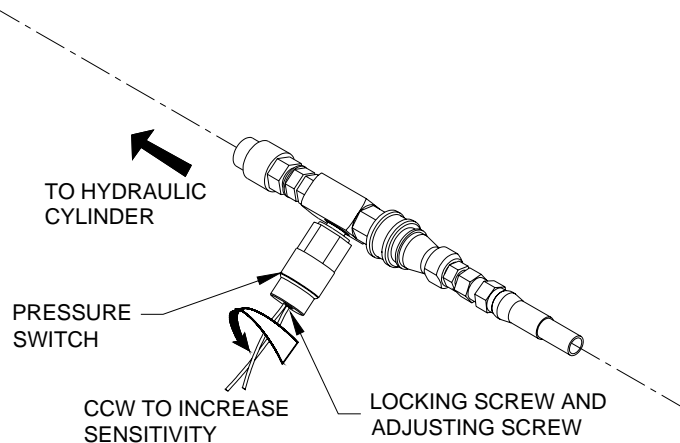

FIGURE 2-6: ANTI-STOW PRESSURE SWITCH
- a. Refer to **Figure 2-6**. The pressure switch adjusting screw is located at the top of the body, between the two lead wires. There is a locking setscrew above the adjusting screw, which must be removed to carry out pressure switch adjustments.